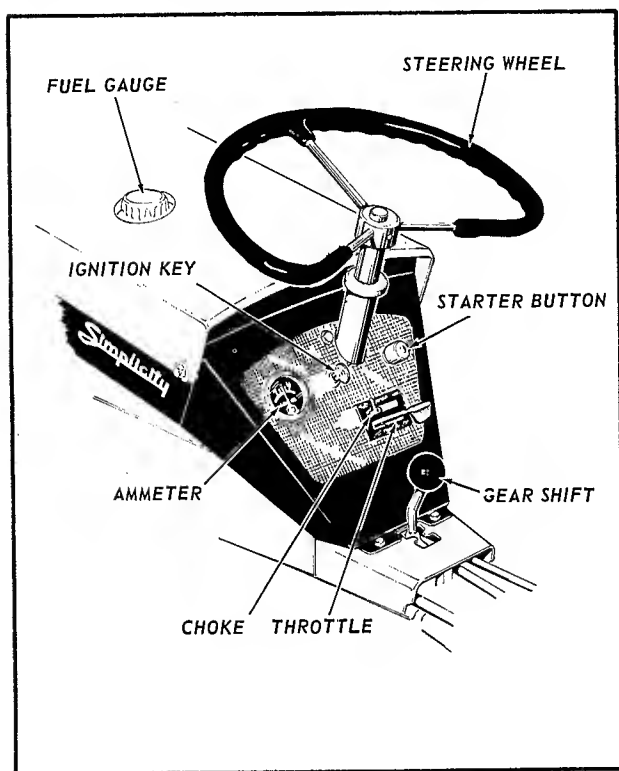
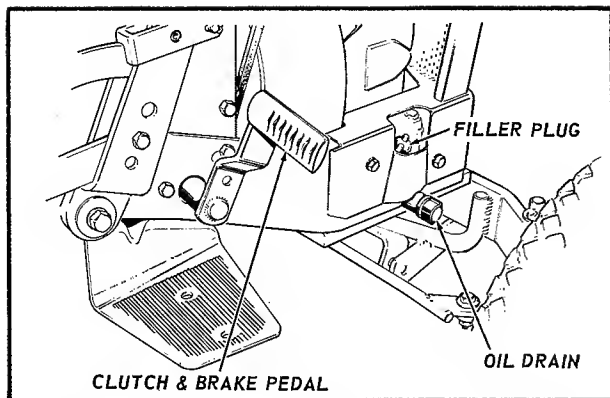

Fig. 12
Fig. 15
Engine - Service air cleaner and crankcase as recommended in engine service manual. Be sure air cleaner is maintained in clean condition. Never use oil in crankcase for more than 25 hours of operation. See figure 15. **CLEAN AIR AND CLEAN ENGINE OIL WILL GIVE LONG TROUBLE FREE OPERATION. DIRT WILL RUIN YOUR ENGINE IN A SHORT TIME.** A funnel and extension are included with the tractor for use in changing oil.
1. Place gear shift lever in neutral position. See figure 12. (Be sure tractor is on level ground and will not roll away in neutral. Apply parking brake.)
2. Place choke lever in "CHOKE" position. See figure 12 & 13.
3. Set throttle lever in mid position and turn ignition key to "ON". See figure 12. Press starter button to start engine and release. As engine warms up, return choke lever to "RUN" position.
1. Place gear shift lever in neutral position. See figure 12. (Be sure tractor is on level ground and will not roll away.)
3. Place choke lever in "CHOKE" position. See figure 12 & 13.
4. Place throttle lever in mid position and turn ignition key to "ON" position. See figure 12.
To place gear shift in desired gear range, depress the combination brake and clutch pedal located on right hand side of tractor. See figure 15. When pedal is depressed move shift lever to desired position (see figure 12) and gradually release pedal until clutch is engaged. When shifting from one range to another, pause briefly in neutral before completing shift. Set throttle lever to obtain desired speed. See figure 12.